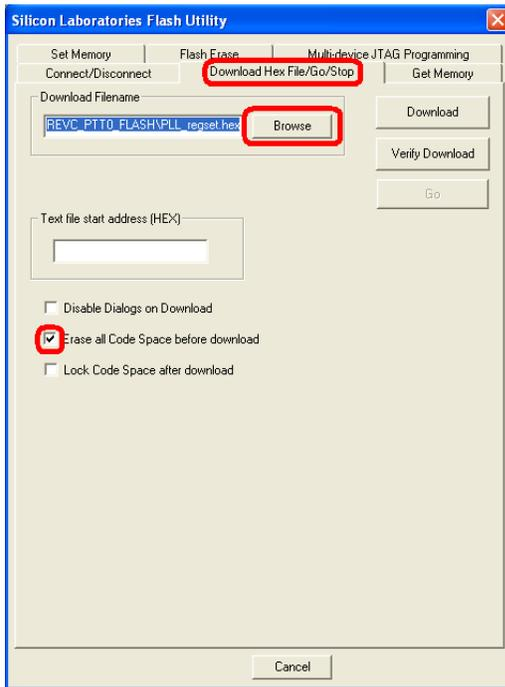

Figure 1. FLASH Utility setup dialog box.
- Open the flash programming utility software and refer to Figures 1 – 3.